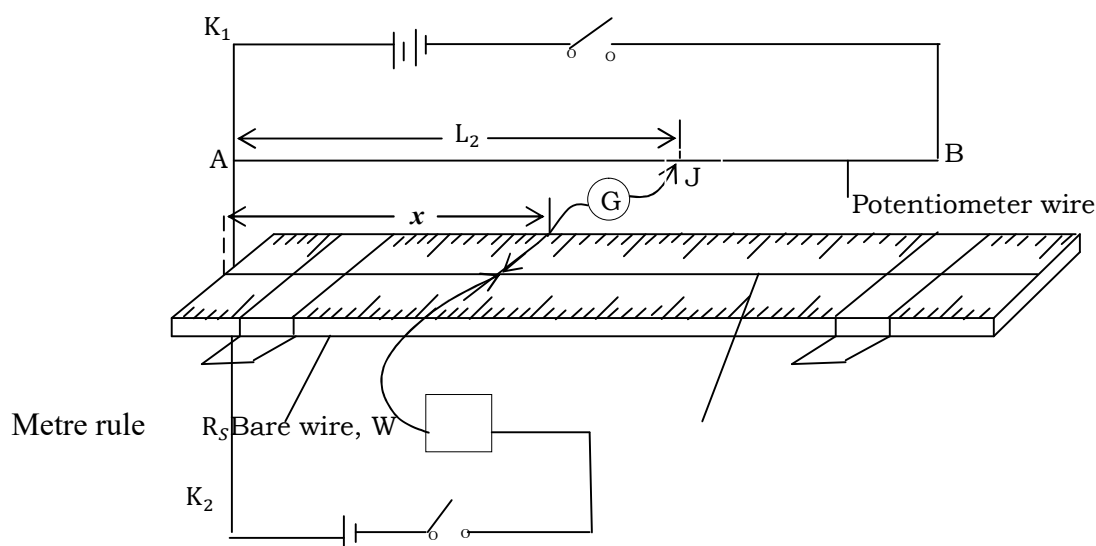

Fig. 3(b)
- (i) Connect the circuit shown in figure 3(b).